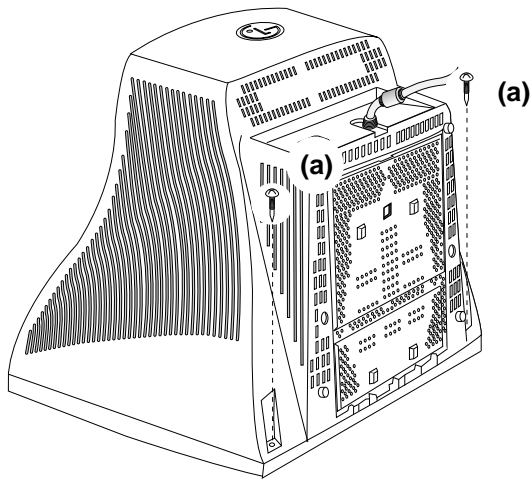

Figure.1
- 4) Pressing the latch (b), Back cover by pushing it upward. (See Figure. 1)
- Install the cable for adjustment such as Figure 1 and run the alignment program on the DOS for IBM compatible PC.